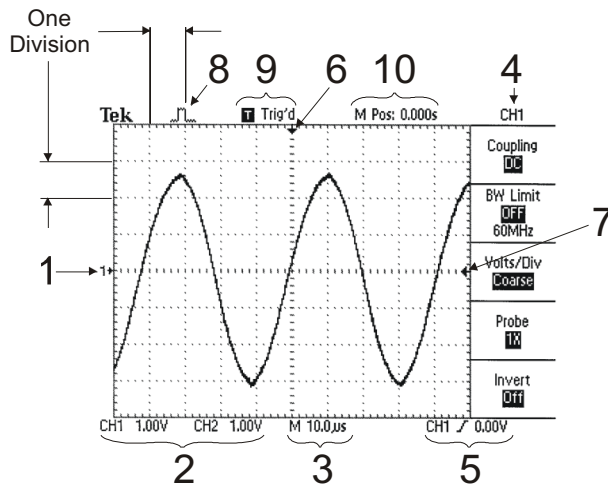
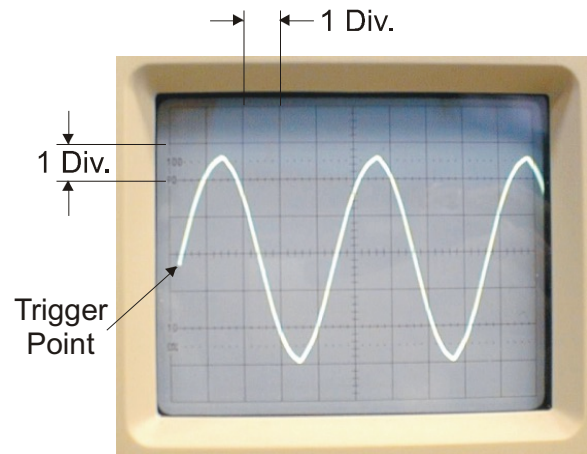
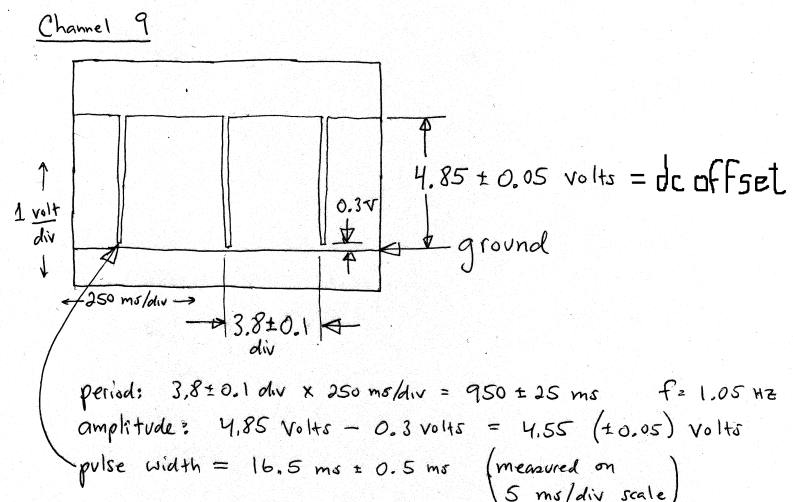

Figure 2. Digital Scope Display.
Figure 3. Display of the analog CRT Oscilloscope.
Figure 4. Example notebook entry for Parts IID and IIID.
The Oscilloscope Input: It is important to understand that the oscilloscope measures a *difference in voltage* between two electrical conductors, and that one of these two conductors is almost always directly connected to the Earth. Our oscilloscopes each have at least two input jacks, labeled channel one (CH1) and channel two (CH2), so that two signals can be simultaneously examined and compared. The jack, shown in Figure 3, is called a BNC connector, and it consists of an inner conductor (a 1 mm diameter gold-plated metal tube) and an outer conductor (a 1 cm diameter steel tube), separated by an insulator (teflon). The outer conductor is almost always the reference or *ground* level for the measurement. The voltage difference between the two conductors of the jack, as a function of time, appears as the *waveform* (also called the *signal* or *trace*) on the
The Digital Scope Screen Output. Figure 2 shows the display screen for the digital scope, the Tektronix TDS 210. As you can see, the screen is divided by gridlines called *graticules*. One *division* is the spacing between adjacent graticules. The zero voltage, or *ground*, reference level is shown by Marker (1) in Figure 4, and the vertical scale factor is given by Readout (2), in units of volts per division. [The scale factor for CH2 is also shown, even though the CH2 is off.] Thus, the signal in channel 1 varies from -3.0 to $+2.6$ volts (\pm about 0.2 V). One adjusts the vertical scale factor with the CH1 VOLTS/DIV knob, and the ground reference level with the CH1 Vertical Position knob; both knobs are on the front panel (see Fig. 4). The horizontal scale is given by Readout (3), in units of time interval per division. From this figure we see that the waveform has a period of $(4.2 \pm 0.1$ divisions) \times 10.0 microseconds/division, or 42 ± 1 microseconds (e.g., 23.8 ± 0.6 kHz). The horizontal scale is adjusted with the SEC/DIV knob. The column (4) is the *menu* for Channel 1. There are 10 *menu buttons* on the oscilloscope. Pressing a menu button brings up a menu of up to five entries that are displayed in the area of Column (4). Each entry has a button to its right (shown in Fig. 4) to allow one to choose among the selections.
The Analog Scope Screen: Figure 3 shows the screen of the analog oscilloscope with same signal that is displayed in Fig. 2. The analog scope's screen is far less informative than the digital screen. The vertical and horizontal scale factors must be read from the settings for the VOLT/DIV and TIME/DIV knobs on the scope's front panel (shown in Fig. 5). For the analog oscilloscope, the trigger location is where the trace begins at the left of the screen, as shown.
Triggering with the digital scope: Items (5) through (10) in Fig. 2 are related to *triggering*. You direct the oscilloscope when and where to start collecting and displaying data (the voltage as a function of time) by setting the *trigger condition*. Readout (5) displays the current trigger condition: it is when the signal in CH 1 rises above 0.00 volts. The Markers (6) and (7) show the coordinates of the trigger condition on CH 1. That is, the oscilloscope displays the data starting from these coordinates and continuing to the right edge of the screen. Because it has a memory, the TDS 210 recalls the data collected prior to the trigger condition, and it displays this data from the left of the screen up to the trigger point. If the trigger condition does not occur, then either the waveform will not be displayed, or else an unstable waveform will appear (one that rolls across the screen, for example). Icon (8) shows the trigger acquisition mode (whether it is sampling, peak-detecting, or taking an average of many waveforms—usually you will work in sampling mode). Icon (9) shows the trigger status. Readout (10) describes the trigger vertical marker location, relative to the center vertical graticule.
In Figure 2, the trigger condition is set on the potential difference appearing in channel one, as indicated by Readout (5), but it can also be set on a waveform in channel two, from a separate signal applied to the EXT TRIG input jack on the front panel, or from the AC line signal. Commonly it is set on the signal in channel one or two. You set this choice in the trigger menu.
AC/DC/GND Coupling: As shown in Fig. 2, the first entry for the CH 1 menu is "Coupling." This coupling determines what part of the signal in CH1 passes into the oscilloscope. Your choices are AC, DC, and GND (ground). With DC coupling, the entire signal is transmitted into the oscilloscope. With AC coupling, any constant-voltage component of the signal is effectively subtracted, so that only the time-varying component is shown. With ground coupling, the trace on the screen is for 0 volts.
In Fig. 2, the displayed voltage is:
Eventually you will observe the signal shown in Figure 2 and 3. At that point, the VOLTS/DIV knob will be around 1 V and the SEC/DIV about 10 μ s.
Rotate the Trigger Level knob and observe what happens to the signal. Notice how the trigger coordinate markers [(6) and (7) in Fig. 4.] move as you adjust the trigger level.